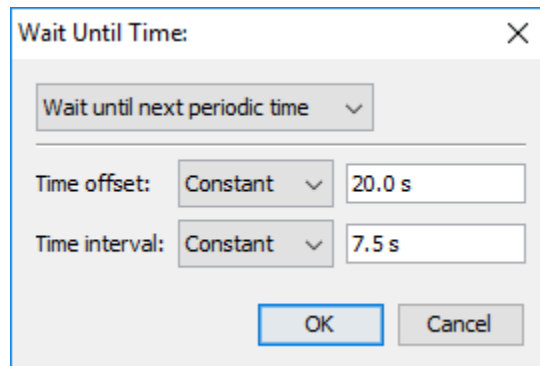

Figure 101. Wait Until Time dialog
2. Click the time to edit the value, which will show the **Wait Until Time** dialog as shown in Figure 101.